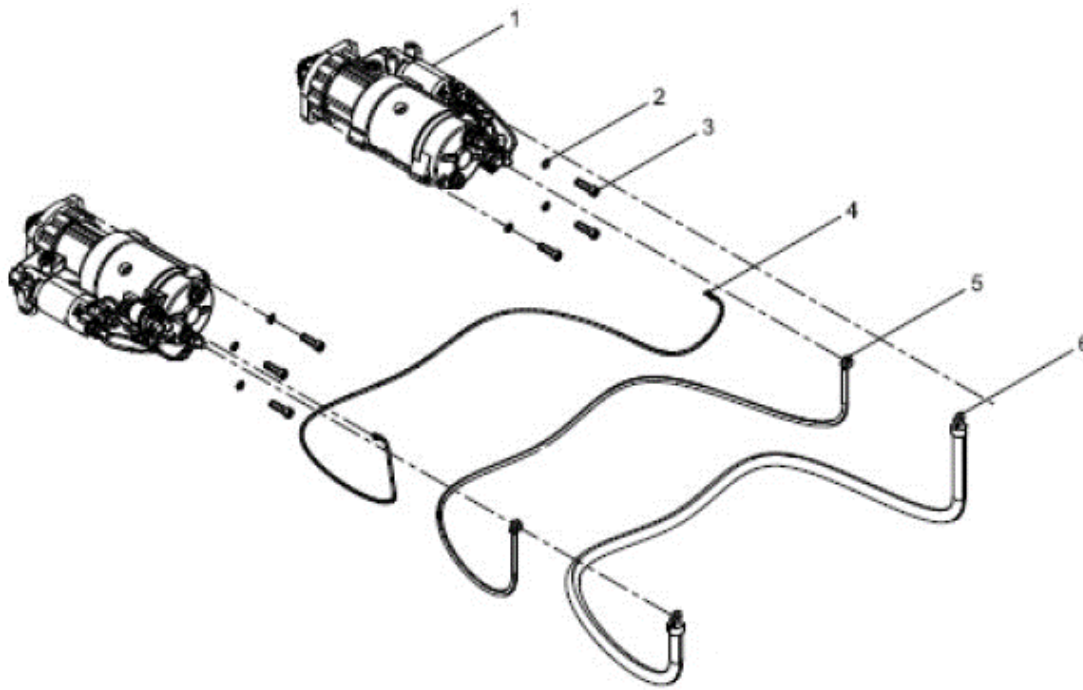

Figure 185. Starter Motor Assembly
1. Loosen and remove the starter wires (Figure 185, items 4 thru 7) with both hands to remove it along the starter gear rotation axis.
2. Loosen and remove the stud bolts (Figure 185, item 3) and the washers (Figure 185, item 2).